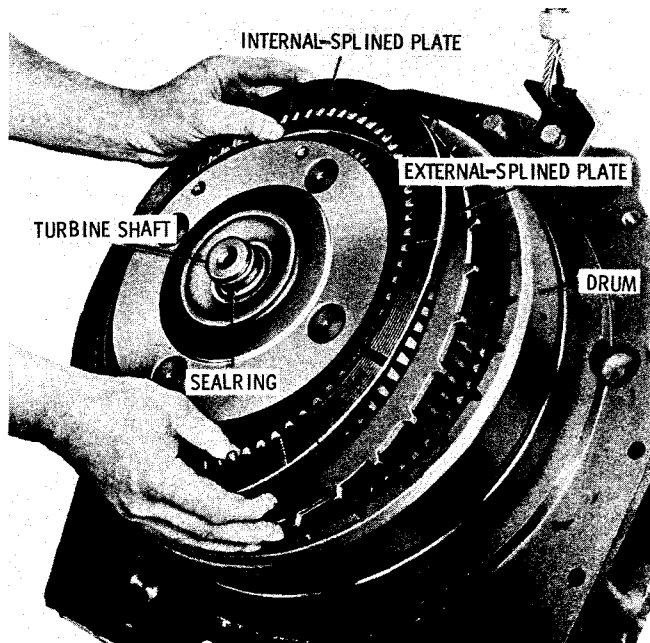

Fig. 7-52. Installing low-splitter clutch plates (CBT, CLBT, VCLBT)
(21) Install the step-joint or hook-type sealring onto the turbine shaft (fig. 7-52). Beginning with an internal-splined plate, alternately install two internal- and one external-splined clutch plates into the low-splitter drum.